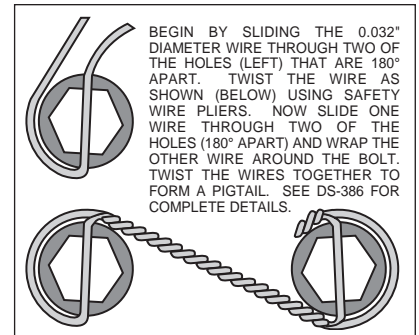

Figure 6. Safety Wire Diagram
- With the slot pointing upward and the mounting ears pointing towards the rear of the vehicle, install the caliper mounting bracket (1) to the housing flange using the stock Original Equipment Manufacturer (OEM) bolts and nuts. Stock OEM hex nuts that retain the bracket (1) should be on the wheel side of the bracket. Apply red *Loctite*® 271 to the stock OEM bolt threads and torque to OEM specifications. **NOTE:** Some brackets act as the bearing retainers, while others help locate the bearing in the axle housing flange. If the stock bearing plates are still on the axle, the caliper mounting brackets (1) should be located between the axle housing flange and the bearing retainer plate. Make sure the heads of the caliper mounting bracket insert nuts are **FACING OUTWARD TOWARDS THE WHEEL.**
- Bolt the hat (2) to the rotor (3) using lock washers (4) and bolts (5). Torque bolts (5) to **180 in-lb.** Safety wire bolts (5) using standard 0.032 inch diameter stainless steel safety wire as shown in Figure 6. Please refer to Wilwood's data sheet DS-386 (available at [www.wilwood.com/pdf/ds386.pdf](http://www.wilwood.com/pdf/ds386.pdf)) for complete safety wire installation instructions.
- Align the correct hole pattern in the hat (2) with the stud pattern on the axle flange. **NOTE:** Some OEM and after market axles come with stud sizes larger than 0.50" diameter. Verify stud size and have a qualified machine shop drill the hats to the correct size. Slide the hat/rotor assembly (2 and 3) over the wheel studs and against the axle flange face.
- NOTE:** Please reference the caution statement at the beginning of the assembly instructions. **WITH THE BLEED SCREWS POINTING UP,** mount the caliper (6) over the rotor (3) and onto the caliper mounting bracket (1) using lock washers (7) and mounting bolts (8). View the rotor through the top opening of the caliper. The rotor should be aligned in the center of the caliper. If not, adjust the caliper by using 0.032 inch shim washers (9), placing them between the caliper mounting bracket (1) and the caliper (6). Apply red *Loctite*® 271 to the mounting bolt threads (8), torque bolts to 30 ft-lb. Safety wire the caliper mounting bolts (8).
- Position the Wilwood disc brake pads (10) into the caliper (6) and fasten with cotter pin (11). Steel backing plate side of brake pad should face the caliper pistons.